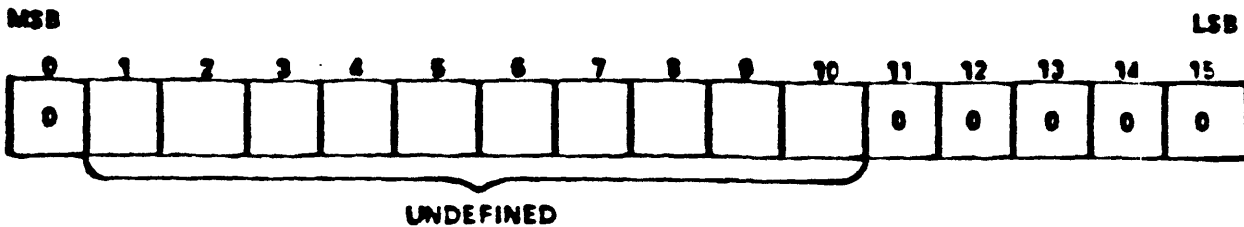

Figure 1-3. Data CRC Test Following a DIA Instruction
2. Issue a DIA instruction. In the resultant word, the most significant bit (bit 0) and bits 11-15 should be zero (see Figure 1-3).